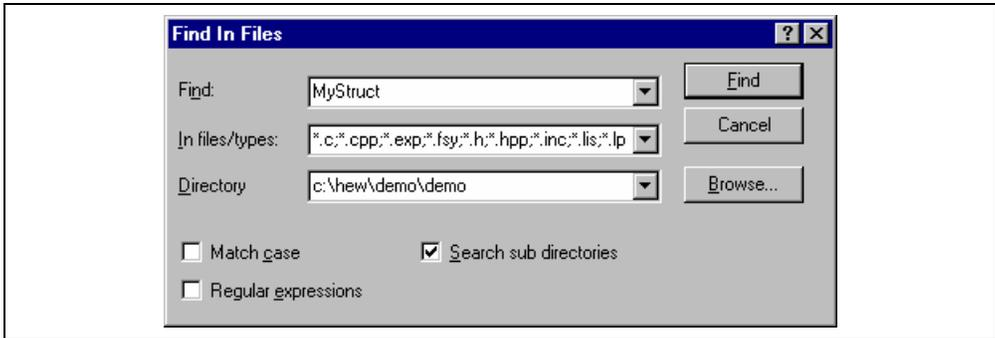

Figure 4.3: Find in Files Dialog
1. Select **[Edit->Find in Files...]**, select **[Find in Files...]** from the editor window's local menu or click the find in files toolbar button (). The "Find in Files" dialog box will be displayed (figure 4.3).